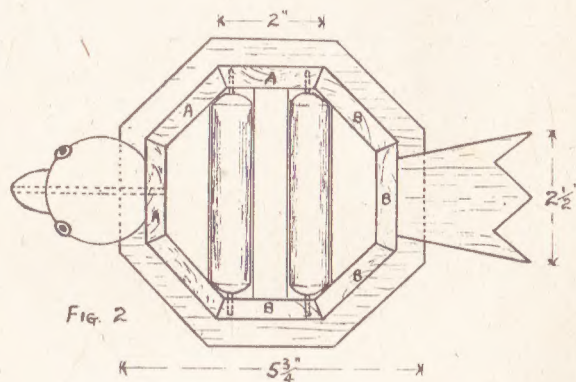

Fig. 2
Start by cutting the eight sides for the case 6 ins. long, 2 ins. wide and $\frac{3}{8}$ in. thick. The best way to get the correct angles for the mitres is to draw out the plan to full size, as shown in Fig. 2. Then you can proceed to mitre the edges. Go slowly, planing off a little at a time until a perfect fit is obtained, laying the work on the plan from time to time to get the mitre lined up correctly.
The case can now be glued together in two pieces—all the sides marked (A) in Fig. 2 making one half, and all the pieces marked (B) for the other half. These two halves are fastened together after the rollers have been fitted, which is the next job.